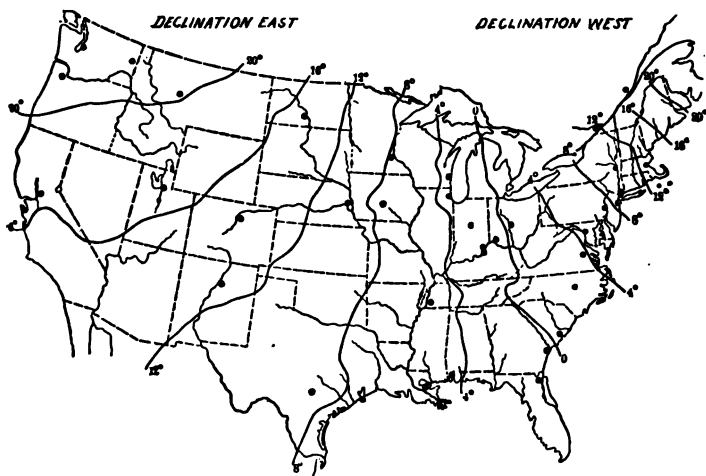

FIG. 197. — Map showing declination of the compass in the United States.
**235. Declination and dip.** Soon after the compass was invented, it was noticed that it did not point true north and south. For a long time it was supposed that this deviation or **declination** was everywhere the same, until Columbus, on his way to America in 1492, discovered near the Azores a place of no declination. Evidently an exact knowledge of the declination at different places is of the greatest importance to mariners and surveyors, and so careful maps are published by the different governments giving lines of equal declination. Figure 197 shows such a map. From this map it will be observed that in the extreme eastern section of the